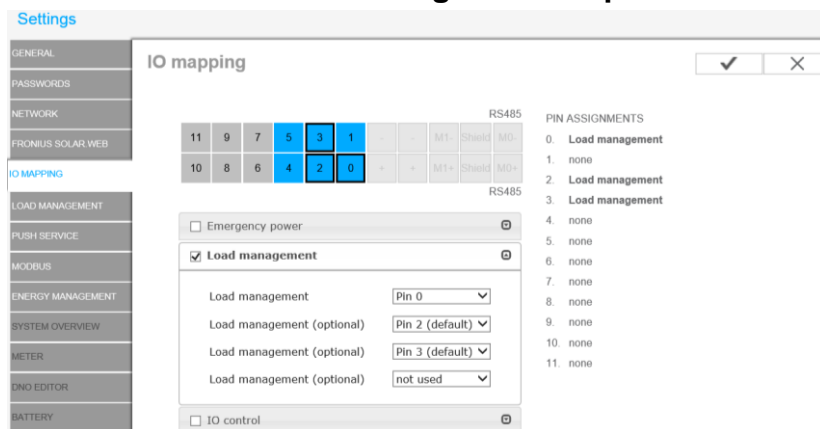

Figure 4a: Activation under I/O Mapping with SnapInverters
- / Activate the load management outputs under "I/O Mapping" or "Features and Pins". See Figure 4a and b